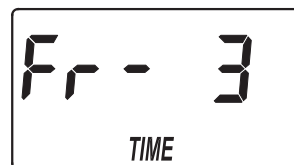

FIG. 27
2. Press the SELECT button three times, so that "Fr TIME" appears in the display (See Figure 27).